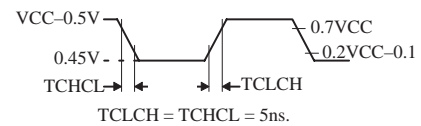

Figure 13 Clock Signal Waveform for ICC Tests in Active and Idle Modes
- Operating ICC is measured with all output pins disconnected; XTAL1 driven with TCLCH, TCHCL = 5 ns (see Figure 13), VIL = V_{SS} + 0.5V, VIH = V_{CC} - 0.5V; XTAL2 N.C.; $\overline{\text{EA}}$ = RST = Port 0 = V_{CC}. ICC would be slightly higher if a crystal oscillator used (see NO TAG).